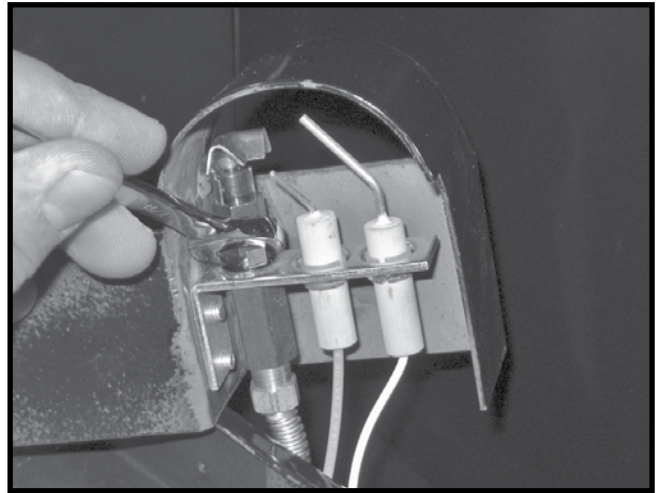

Figure 20: Loosening pilot head.
5. With a 7/16" wrench loosen the pilot head on the pilot assembly by a half-turn (Figure 20).